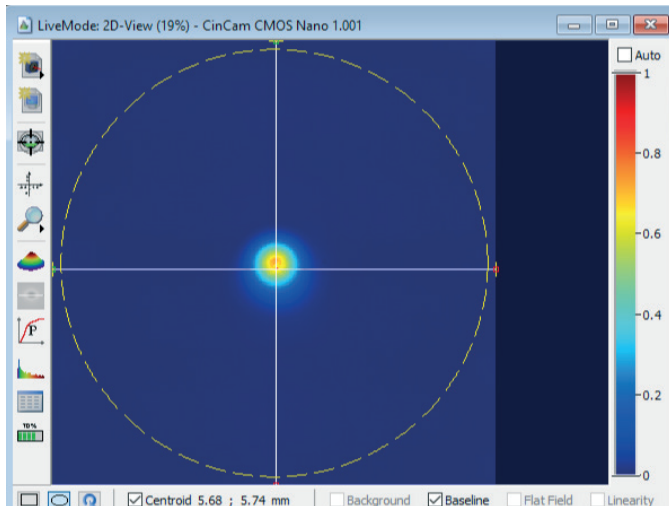

Figure 12. Setting beam position.
1. Install camera ~1200 mm from the laser output, center it and set current beam position as a reference point by placing crosshair over the center (fig. 12):